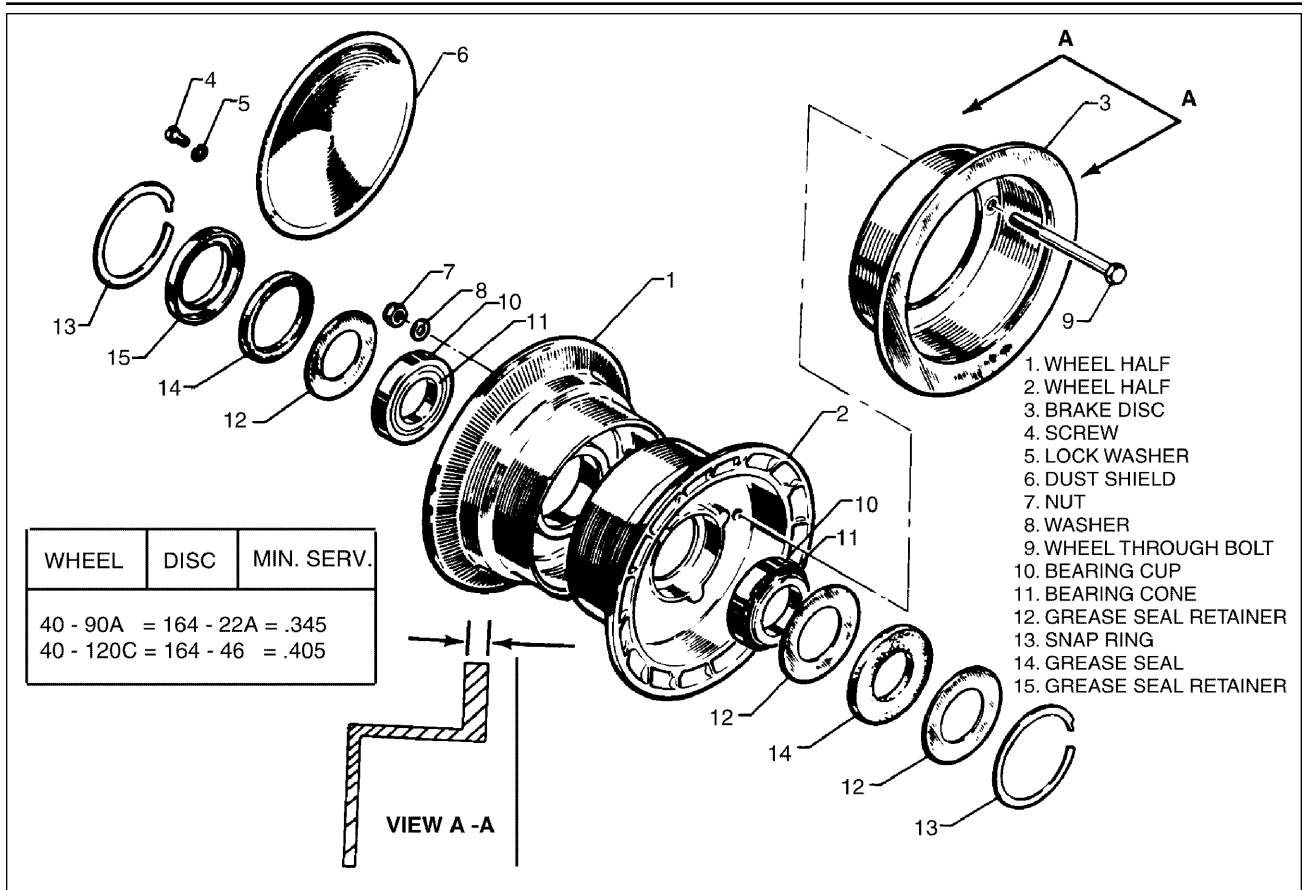

Figure 32-14. Main Wheel Assembly
- (1) Inspection
- (2) Removal and Disassembly (Refer to Figure 32-14.)
- (3) Assembly and Installation (Refer to Figure 32-14.)